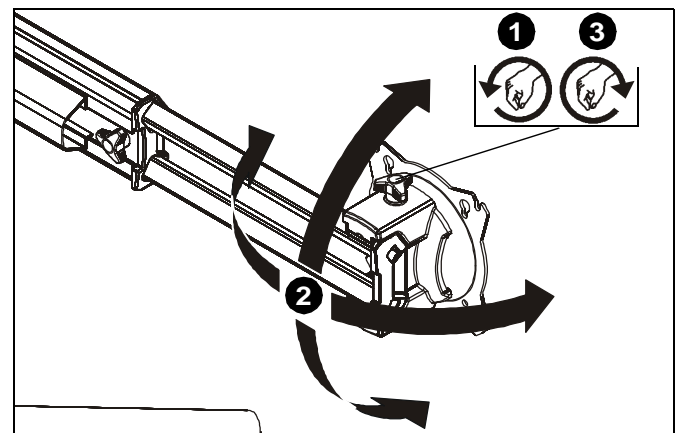

**Figure 23**
1. Loosen knob on top of outside faceplate assembly until faceplate can slide freely along array arm. (See Figure 23)
2. Adjust lateral position as desired. (See Figure 23)
3. Tighten knob to secure lateral position. (See Figure 23)